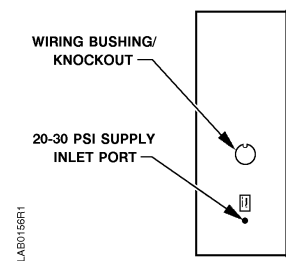
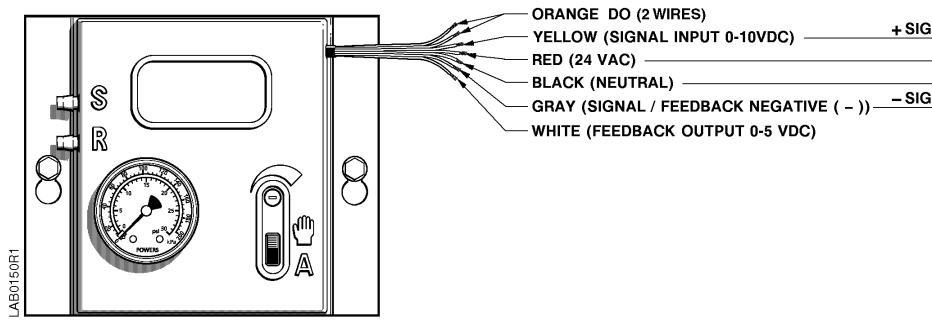
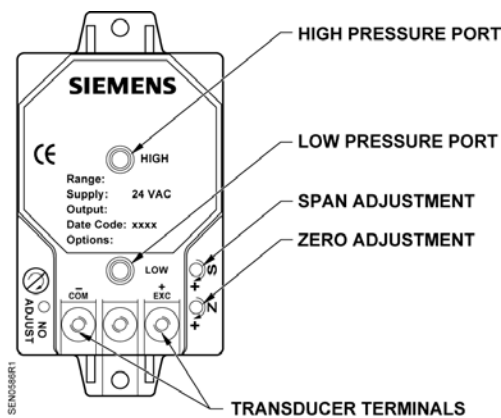

Figure 9. Supply Terminal Pneumatic Piping Connections and Terminal Knockout.
Figure 10. AO-P Transducer Wiring Connections.
Figure 11. Differential Pressure Transmitter Wiring Connections.
1. **For damper, actuator and valve controls mounted inside the controls enclosure.** Connect the 1/4-inch poly tubing from the 20 to 30 psi supply line to the port labeled "Supply Air 20 to 30 psi" on the side of the controls enclosure (Figure 9).
1. Connect a two-conductor 20 AWG cable to the field panel's 0 to 10V output or UC's universal output. Connect it to the AO-P Transducer or through the wiring bushing/knockout on the controls enclosure (Figure 9) to the AO-P Transducer inside the enclosure. The wire bushing can be removed and a standard 1/2-inch conduit knockout fitting may be installed. Connect the cable to the AO-P Transducer (Figure 10).
2. Connect a two-conductor 20 AWG cable to the field panel's 4 to 20 mA input or UC's universal input. Connect it to the differential pressure transmitter or through the wiring bushing/knockout on the controls enclosure (Figure 9) to the differential pressure transmitter inside the enclosure. Connect the cable to the differential pressure transmitter (Figure 11).